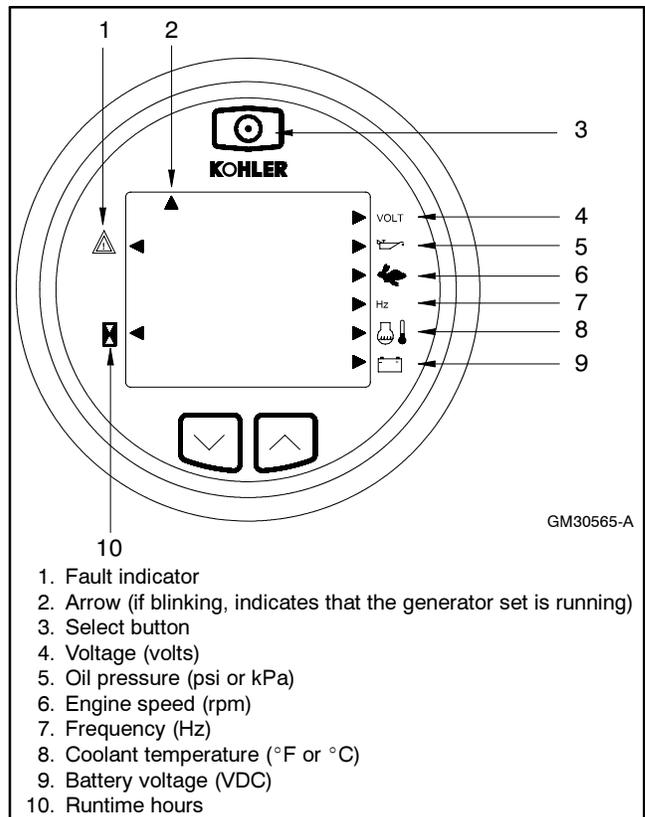

Figure 7 Remote Digital Gauge
- (1) With no power to the gauge, press and hold the SELECT button. See Figure 7.
- (2) Apply power to the gauge.
- (3) The gauge displays: **Adc 2100**
- (4) The gauge displays: **UnIT SET**
- (5) Press and hold *both* the UP and DOWN buttons until the gauge beeps and the display changes.
- (6) Use the UP or DOWN buttons to select either **Int** or **USA** units.
- (7) Press and hold *both* the UP and DOWN buttons until the gauge beeps and the display changes.
- (8) Press the DOWN button.
- (9) The gauge displays: **ESC 08 ?**
- (10) Press and hold *both* the UP and DOWN buttons until the gauge switches to the monitor mode.
Press the SELECT button until the display shows generator set data and indicator arrows. Use the UP or DOWN arrow to scroll through the data. The corresponding illuminated arrow indicates which data is being displayed. See Figure 7. Any faults are displayed in blinking text. The following generator set operation data is displayed in this mode:
Note: The ADC 2100 must be powered (display active) and the master switch must be in the AUTO position for remote start/stop. If the ADC 2100 master switch is in the RUN position, a remote stop command will not stop the generator set. The arrow at the top left side of the display blinks to indicate that the generator set is running (see Figure 7, item 2).